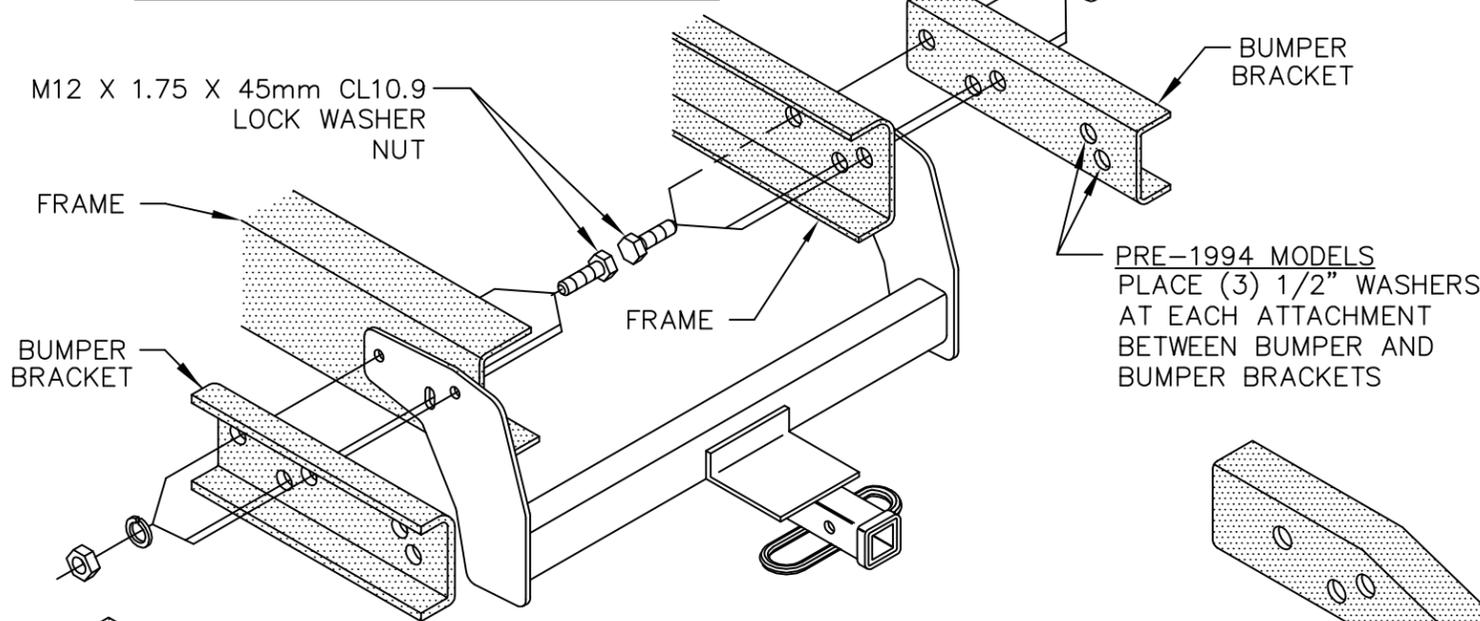

FIGURE 1
5. POSITION RECEIVER ON FRAME AND LOOSELY REINSTALL BUMPER BRACKETS USING (3) M12 BOLTS AND FASTENERS PER SIDE. RECEIVER BRACKETS ARE SANDWICHED BETWEEN BUMPER BRACKETS AND FRAME.
6. PRE-1994 MODELS: REINSTALL BUMPER ON BUMPER BRACKETS WITH ORIGINAL BOLTS, USING THREE (3) 1/2" WASHERS AT EACH BOLT LOCATION AS SPACERS BETWEEN BRACKETS AND BUMPER. SEE FIG. 1.